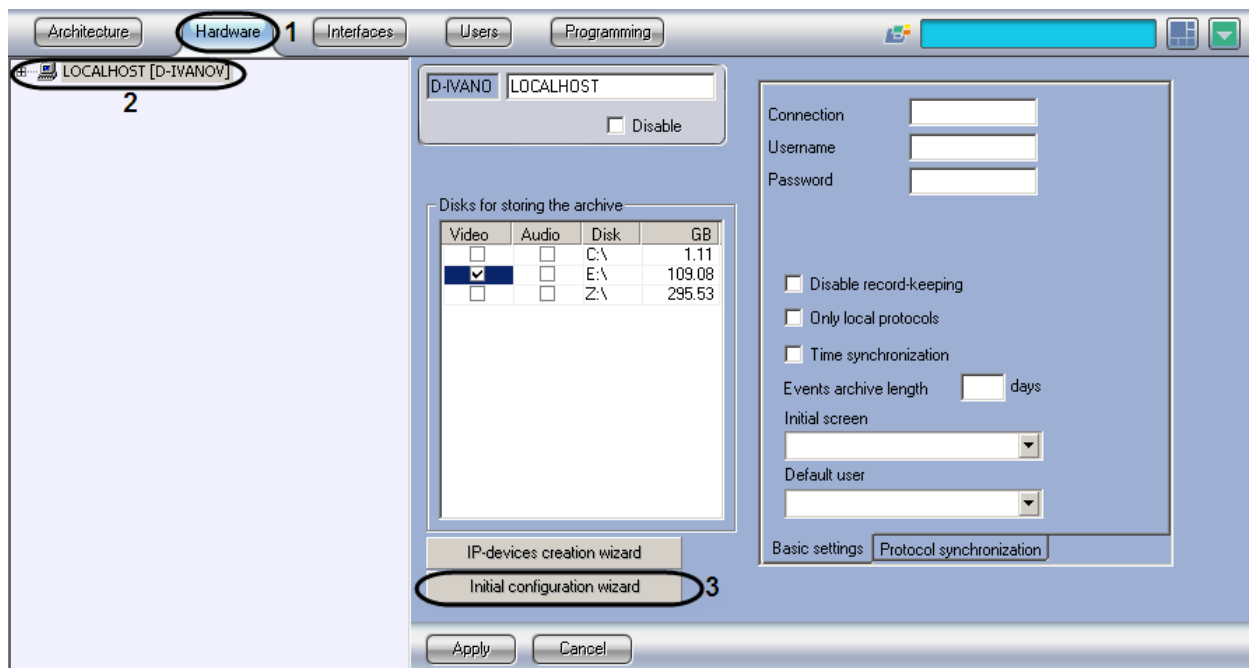

Figure 3.1-18 Initial configuration wizard
1. Go to the **Hardware** tab in the **System settings** dialog box (Figure 3.1-18, 1).
2. Select the **Localhost** object related to the required Server in the object tree on the **Hardware** tab (Figure 3.1-18, 2).
- Click **Initial configuration wizard** on the settings panel of selected object (Figure 3.1-18, 3).